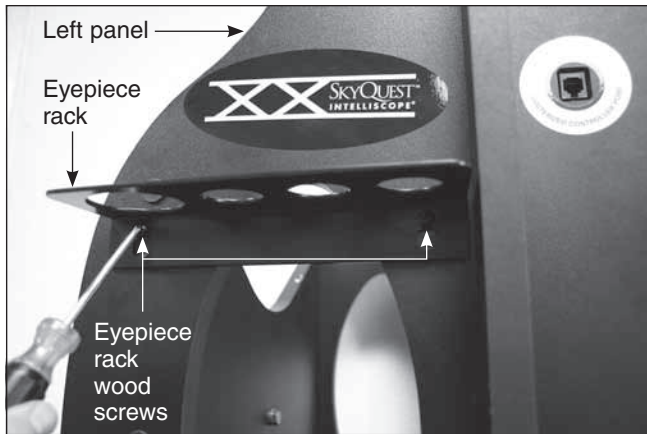

Figure 15. Using the two eyepiece rack wood screws, install the eyepiece rack into the pilot holes near the top of the oval cutout in the left panel.
27. The aluminum eyepiece rack holds three 1.25" eyepieces and one 2" eyepiece in a convenient place on the base, within easy reach while you're observing. Near the top of the oval cutout in the left side panel you will notice two pre-drilled pilot holes located approximately 6" apart. Thread the eyepiece rack screws into the starter holes with a Phillips screwdriver. Now "keyhole" the eyepiece rack onto the wood screws and continue tightening the screws (Figure 15). If you want to remove the rack, be certain the screws are loose enough so that you can lift the rack and remove it through the larger part of the keyholes. If you want to have the rack permanently attached, tighten the screws firmly.